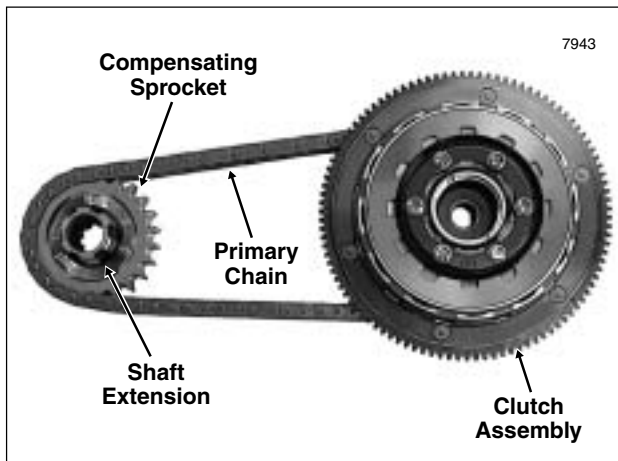

Figure 6-31. Remove Clutch Assembly, Primary Chain, Compensating Sprocket and Shaft Extension
- Remove clutch, primary chain, compensating sprocket and shaft extension as a single assembly. See Figure 6-31.